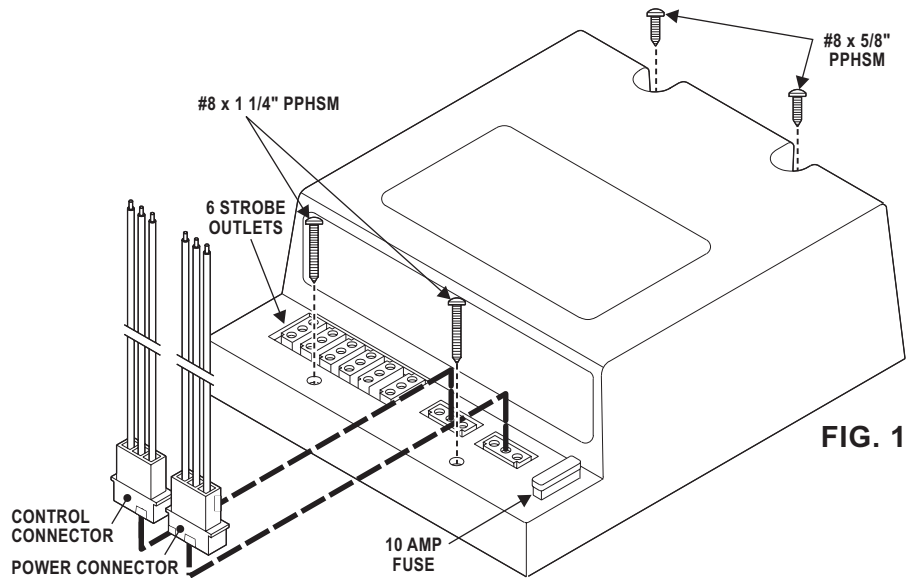

FIG. 1
1. Locate the 3-position power connector included with your CSP660 and plug it into the port indicated in Fig. 1. Extend the BLACK and RED wires from the power connector towards the battery.